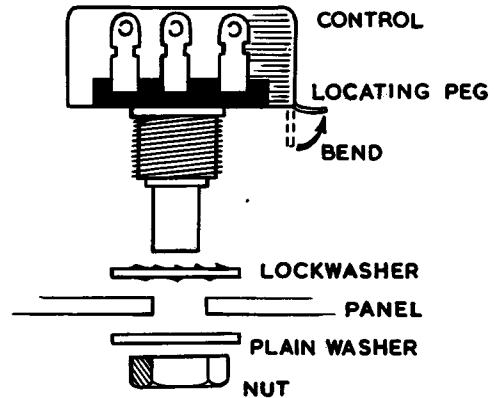

FIGURE 1
Refer to Pictorial 1 and Figure 1 for the following steps:
- (✓) Refer to Figure 1 and bend down the locating peg on all the controls except the 7.5 megohm pre-set controls.